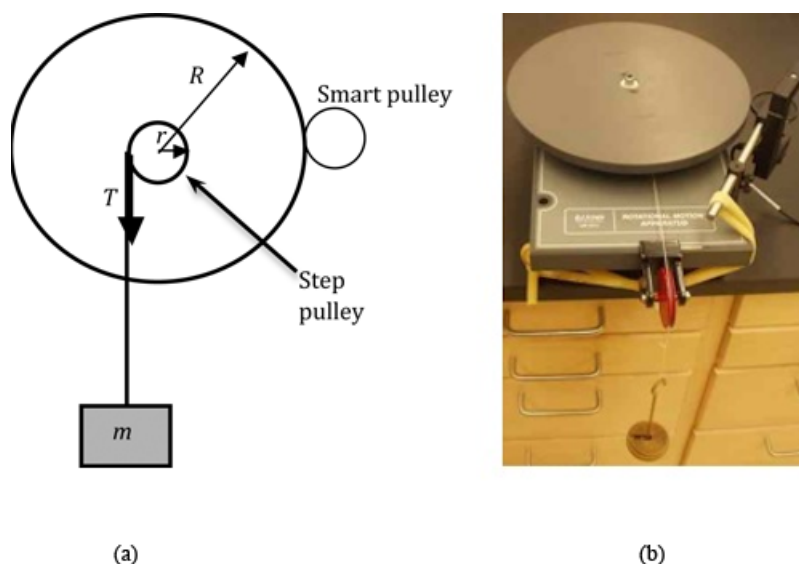

Figure 1: Sketch and photo of the apparatus
In this experiment you will use a disk of nearly uniform mass and apply a torque by adding weight to a string attached to a step pulley at the center of the disk. See Fig. 1. Using your results, you will determine the moment of inertia of the disk.
The apparatus (see Fig. 1) consists of a wheel with a small step pulley mounted at its center. A string wound around this pulley and attached to a hanging mass provides the necessary torque needed to set the wheel rotating. A small pulley with a photogate is mounted so it makes contact with the rim of the wheel. As the wheel rotates, this *Smart Pulley* will also rotate. The spokes of the rotating pulley will interrupt the infrared beam from the photogate and the photogate sends these signals to the computer. The computer uses the information to measure the speed at which the pulley turns. The computer measures the speed at which the pulley turns and calculates first the tangential velocity of the edge of the wheel, and then the tangential acceleration a' at the rim of the wheel. From this, you will calculate the tangential acceleration at the step pulley's rim using Eq. (10). An extension like a hoop or a rectangular plate can be added to the wheel and the moment of inertia of the combination can be measured. Because the extension has the same axis of rotation as the wheel, the moment of inertia of the combination will be